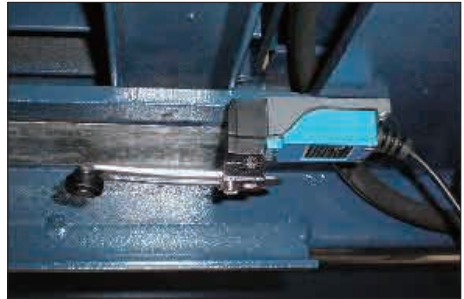

Fig.19 (Limit switch of main lift)
- 1) Turn the changeover switch to the “Main lift” position, press the Up button to lift the platform of the main lift to 1800mm height, and adjust the action of the limit switch SQ1 (see Fig.19). Note: For the highest position limit adjustment of the main lift, the safety jaw of the main lift shall be stopped 5-10mm above the last tooth of the safety gear rack. Alternatively, the position limit can be adjusted to any height according to the user's ceiling height.